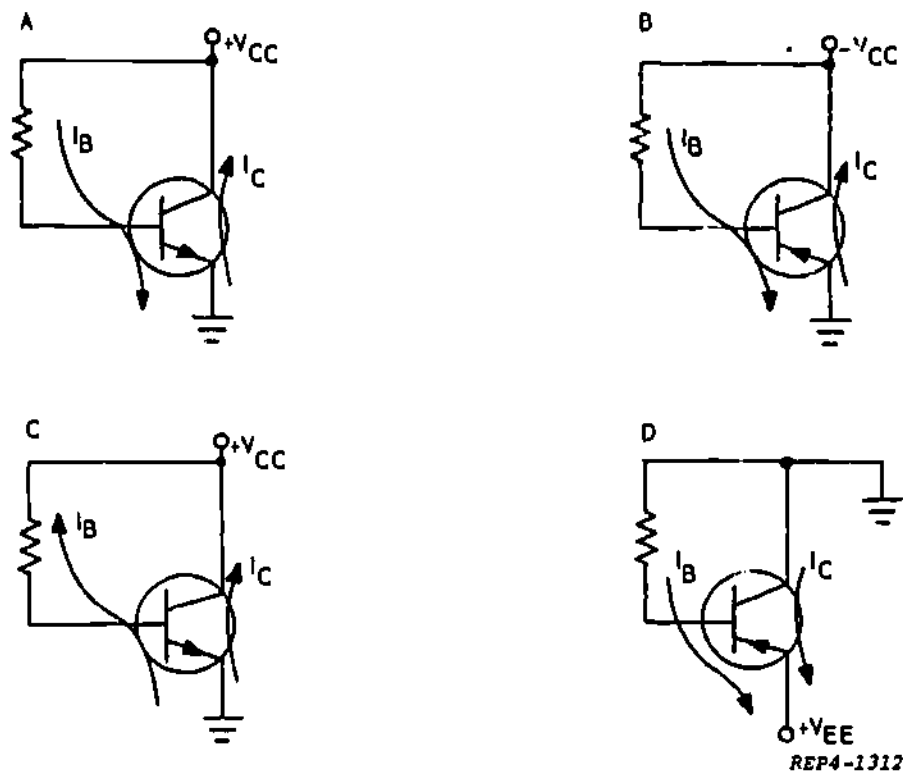

Figure 30-4
16. From figure 30-4, select the circuit/circuits which show the correct current paths.